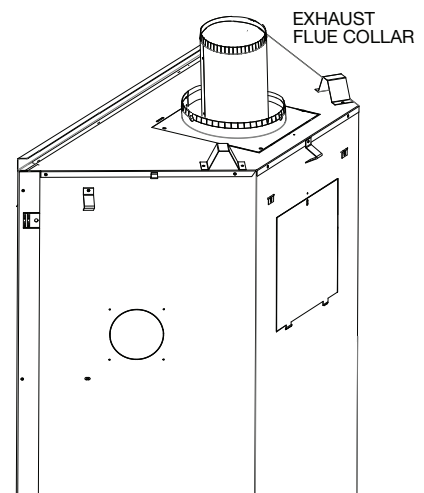

Fig. 3
- G. From inside the firebox, install the 4" (101.6mm) exhaust collar with gasket up through the top of the firebox, and secure with the 4 hex head 3/4" black screws supplied in the manual baggie (**Fig. 3**).